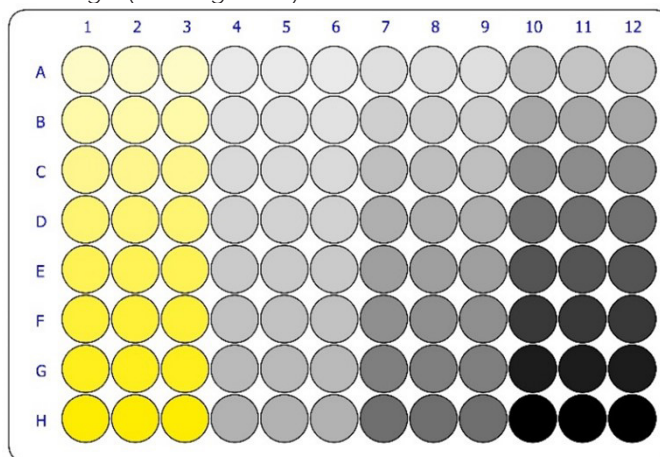

Figure 3: Recommended plating order.
- 5.1 Transfer **25 µL of test antibody** to each well of the assay plate. We recommend including a "zero" (medium alone) and plating samples from low to high (see Figure 3).